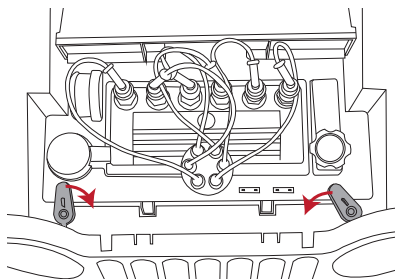

Figure 23
- Remove the imitation engine plate by unlocking the engine locks. See Figure 23.